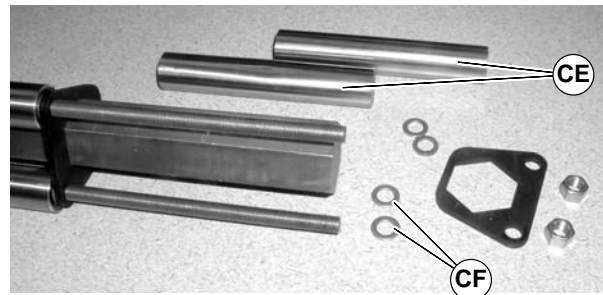

Figure 59
- Remove pulleys (CE of Figure 59) and additional washers (CF).